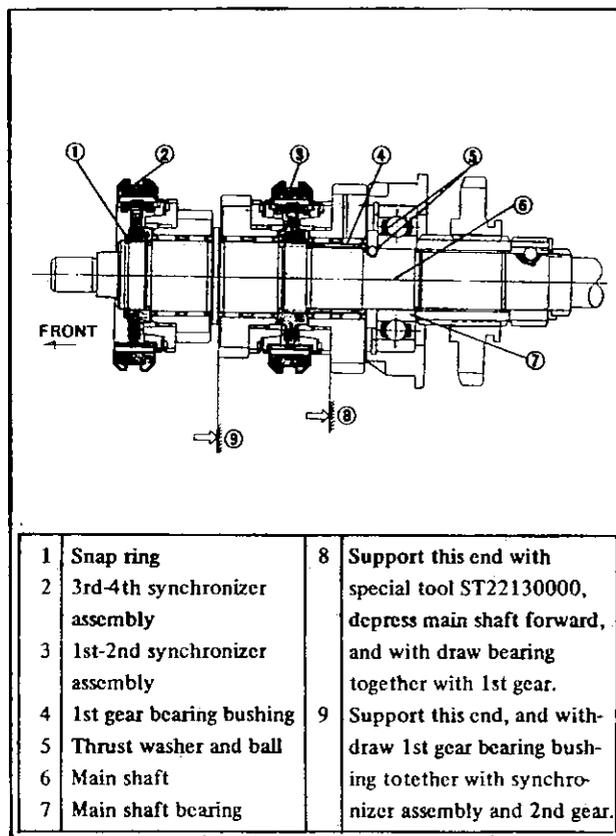

Fig. TM-18 Cross-sectional view of main shaft gear
15. When removing main shaft gear, apply the front end of 1st gear to bearing puller (special tool ST22130000), and withdraw bearing retainer (10), 1st gear (7) and thrust washer (9) simultaneously by using a press. See Figure TM-18.